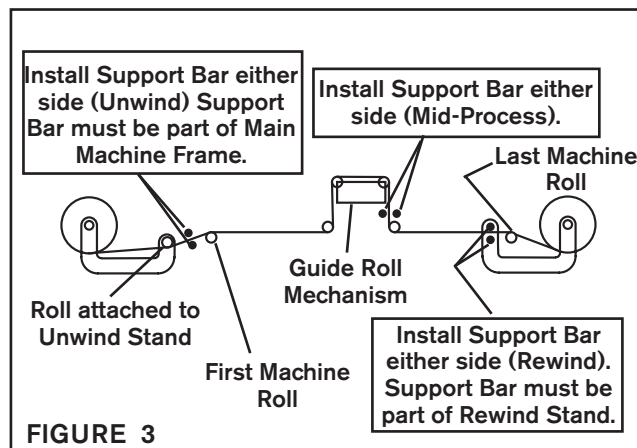

FIGURE 3
2. Secure Mounting Bracket to customer supplied sensor mounting bar (1 In. [25 mm] square) mounted across web (See Figure 3).